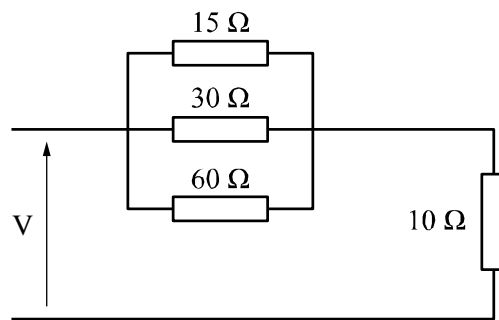

Fig Q1
1. In the network shown in Fig Q1 the $15\ \Omega$ resistor dissipates $60\ \text{W}$.